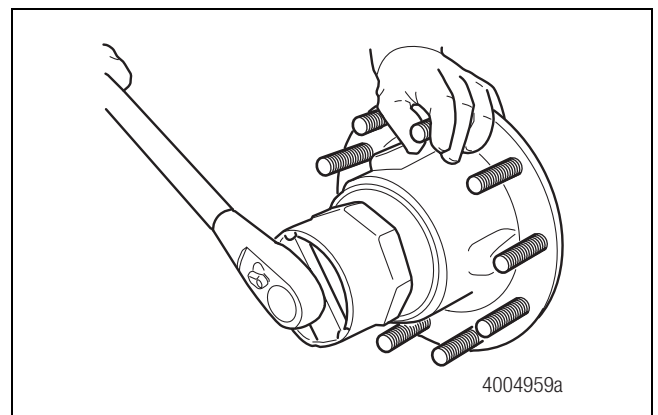

Figure 3.11
5. Remove the hubcap. Figure 3.11.